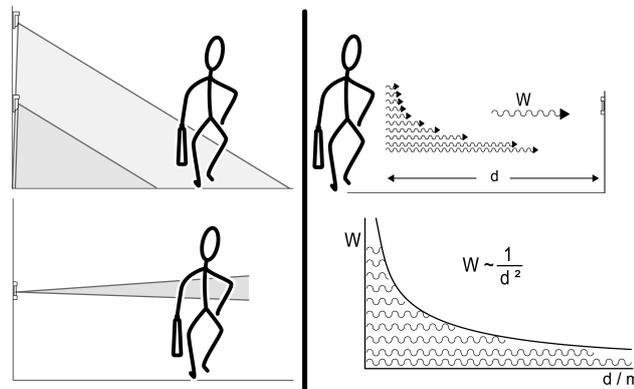

Figure 4: Detection of heat sources – detection field geometry and distance (photometric distance law)
- Distance between heat source and motion detector: the further away the heat source is from the sensor, the weaker the evaluable signal on the sensor (Figure 4).
- Contrast between the heat source and the environment: if the heat source radiates just as intensely as the environment. detection will be significantly more difficult (Figure 4).